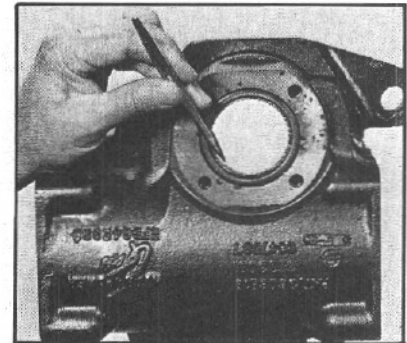
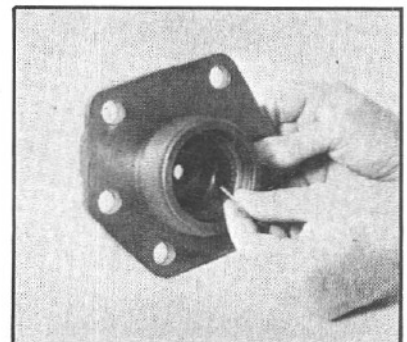

Figure 85
Figure 86
6. Inspect the housing bearing (21) (FIG. 85) and the side cover bearing (FIG. 86) for brinelling or spalling. If either condition exists, replace the damaged housing bearing (21). For the housing bearing, follow disassembly step 10, assembly step 2, Pages 19 and 30. If the side cover bearing is damaged, replace side cover assembly (58).